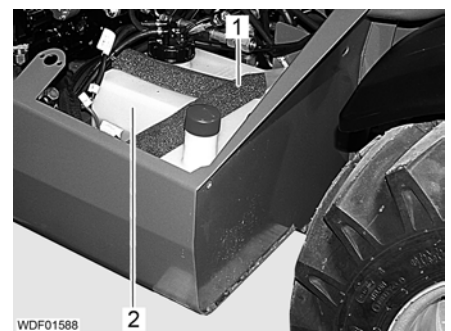

Fig. 182 Sealing and insulation material on the fuel tank
- Remove fuel tank (Fig. 182,2).